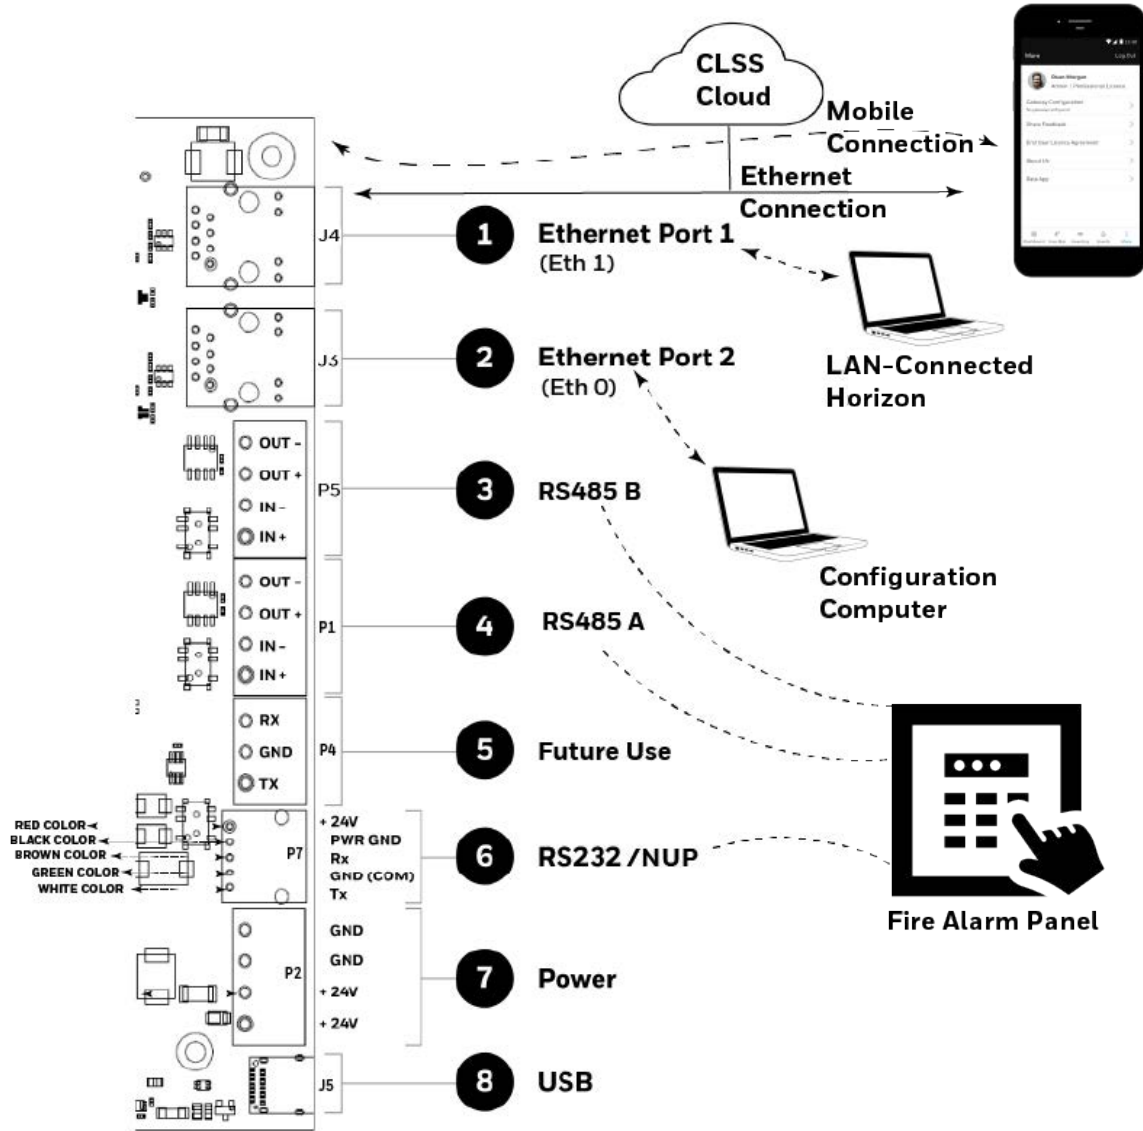

Figure E.2: Connections to the LAN-Connected Horizon
1. Connect an Ethernet cable to the first Ethernet port (Eth1) of the gateway. The Ethernet port is labeled as 1 in Figure E.2.
1. Connect an Ethernet cable to the second Ethernet port (Eth0) of the gateway. The port is labeled as 2 in Figure E.2.